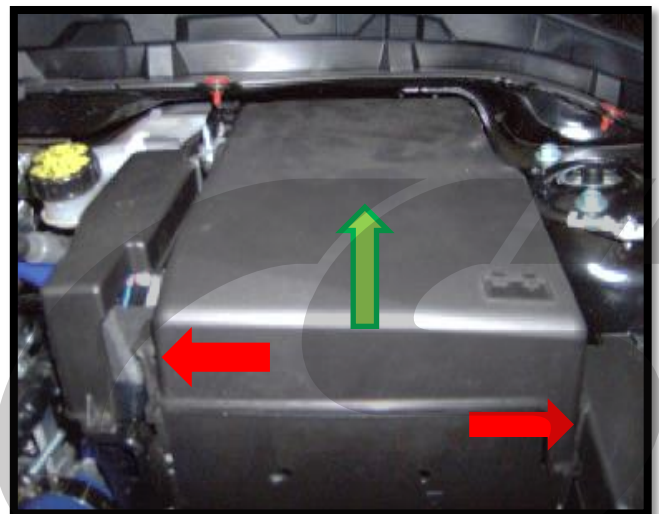

Figure 2a
- a) Remove the battery box cover. There are two clips (shown with **red arrows** in **Figure 2a**). Pry the clips outward by hand and lift the lid off the box.